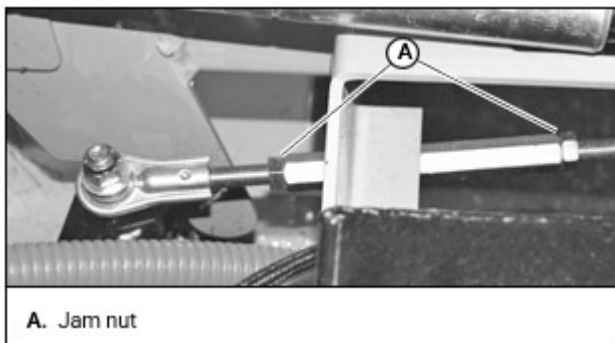

Figure 13
- a. Loosen the brake linkage jam nuts. [Figure 13]